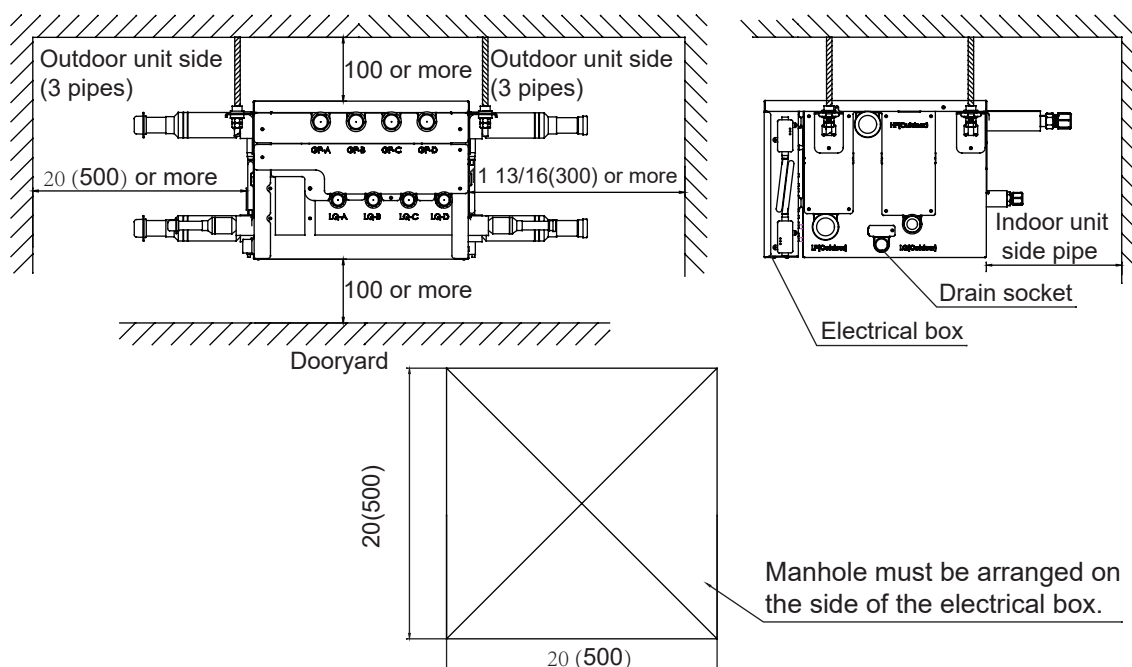

Fig.1
- Ensure that there is enough space for installation and maintenance.as show in Fig.1